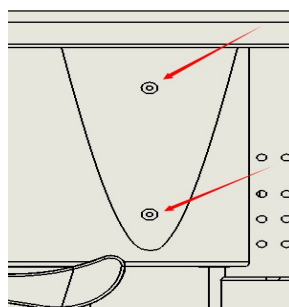

Figure 8
Step 9 Tighten the fixing screws on each side of the head. Figure 8